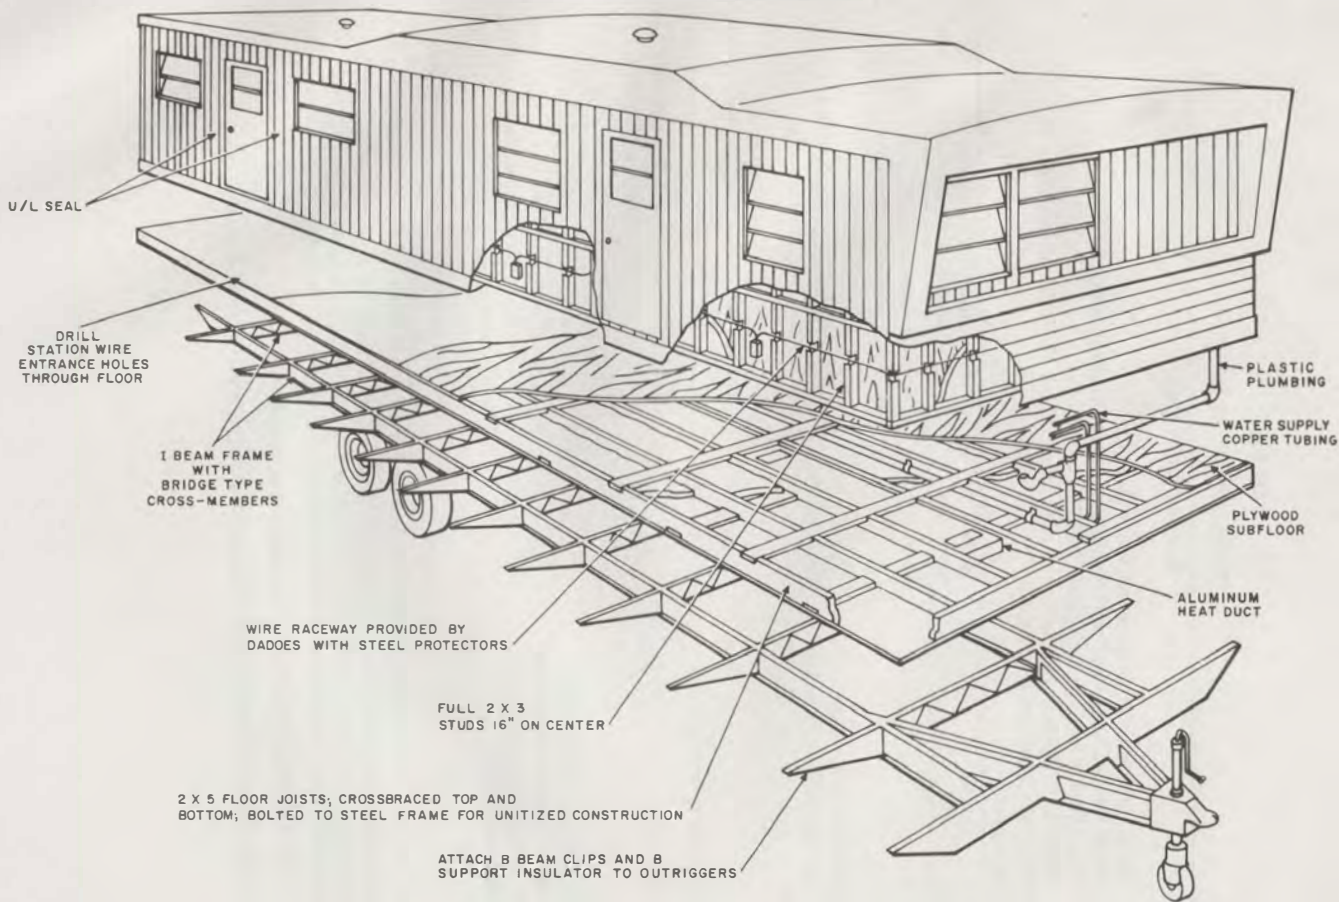

Fig. 8—Typical Mobile Home Construction
4.09 Construction of a typical mobile home is shown in Fig. 8. It is similar to a frame building construction except it is mounted on a metal chassis. Telephone prewiring is not necessary,
4.10 The heating, plumbing, sewer, and water pipes run down the center. Electrical wiring is in the outside walls of the mobile home (see Fig. 8), approximately 16-inches above the finished floor level or in the ceiling, leaving the floor area along the outside walls free for drilling for station wire entry. Drill straight down through plywood floor avoiding outriggers. Use care when drilling the soft insulating board covering the bottom of the mobile home as it tears easily. Seal holes around